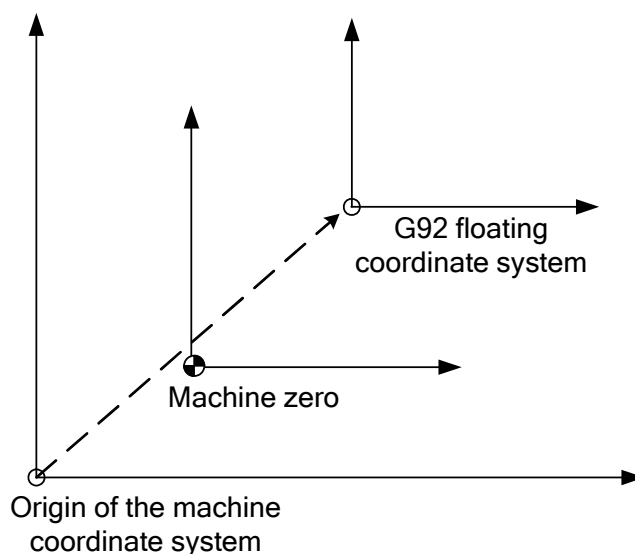

Fig. 4-2-11-1
1. As shown in Fig. 4-2-11-1, the corresponding origin of the G92 floating coordinate system is the value in machine coordinate system, which is not related to the workpiece coordinate system.